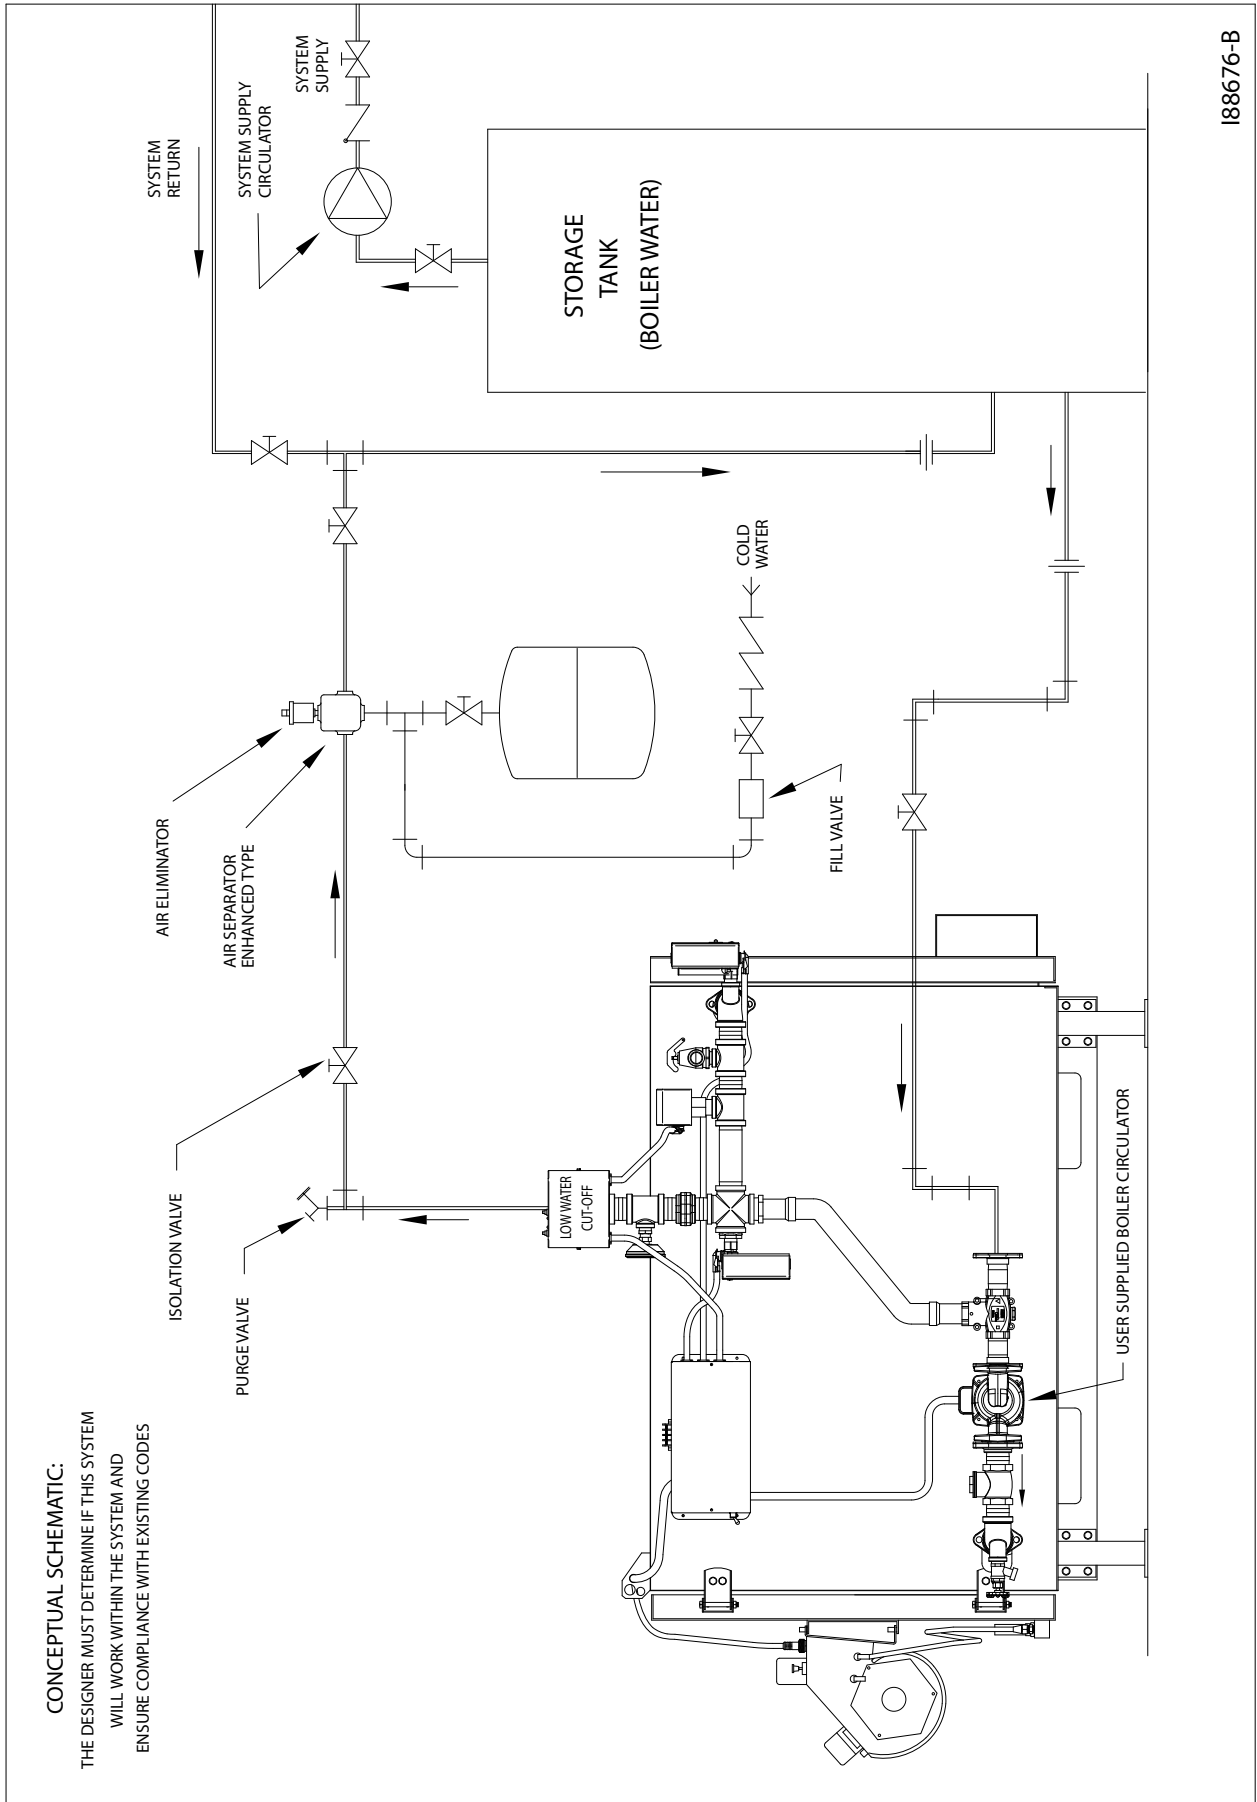

Figure 10B - CTB with Additional Larger Storage Tank
The 140 °F Mixing Valve must be installed according to Figure 10B or 10C and must be **as close as possible to the suction side of the boiler circulator**. This allows the by-pass loop to function properly. When starting the boiler from cold (room temperature) the boiler water temperature will be able to come up above 140 °F within 5 to 7 minutes (variance caused by unit settings and type of fuel). As the boiler temperature rises above 160 °F the Mixing Valve will modulate and allow more system return water to be mixed into the boiler therefore supplying more hot water to the zones.
(1) *The boiler circulator (which you may have ordered from Clean Burn for your CTB system) is sized to ensure a flow of water through the coil tube ONLY;* it is NOT sized to be used as a system circulator. The boiler circulator must be installed according to Figures 10B and 10C, after the mixing valve. An additional circulator must be installed to flow water through the system and to the boiler.
(2) *In low load conditions,* Clean Burn recommends the installation of a larger storage tank next to the CTB to extend the run time and to reduce the occurrence of short cycling. Position the tank close to the boiler to reduce the required connective piping as shown in sample configuration, Figure 10B.